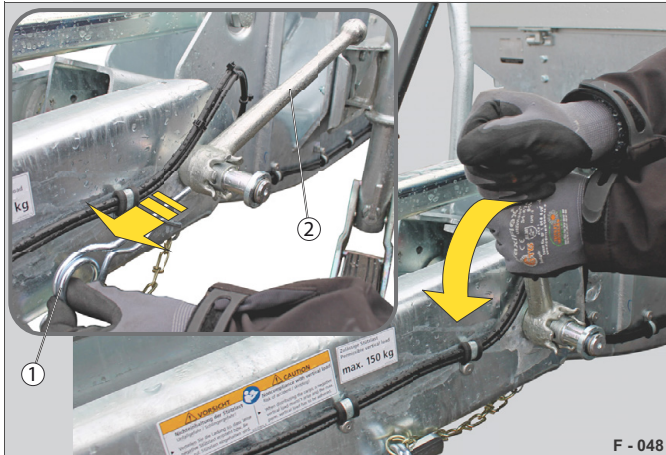

Fig. 46 Undo toggle locking switch
- Pull out the cotter pin (Fig. 46 /1).
- Undo the toggle locking switch (Fig. 46 /2) and turn it to the end stop.